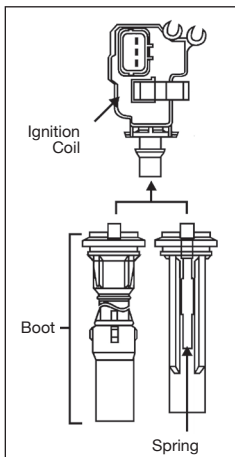

Fig. 1
3. Attach the new insulator boot to the ignition coil, by pressing the insulator until it is properly mated with the ignition coil. (See Fig. 1)